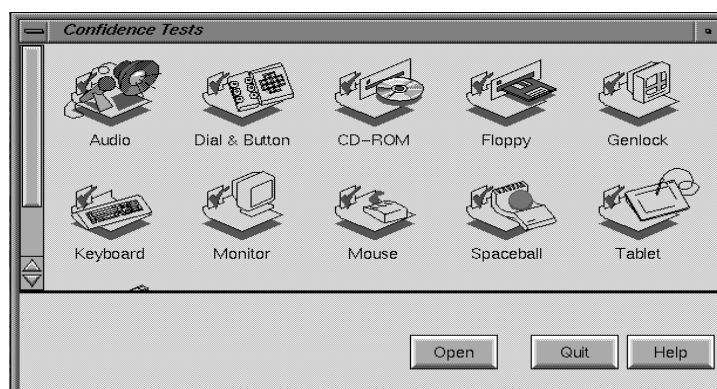

Figure 6-4 Confidence Tests Form
1. From the System toolchest, choose "Run Confidence Tests." You see the Confidence Tests form, as shown in Figure 6-4.
1. From the System toolchest, choose “Run Confidence Tests.” You see the Confidence Tests form, as shown in Figure 6-4.
1. From the System toolchest, choose "Run Confidence Tests." You see the Confidence Tests form, shown in Figure 6-4.